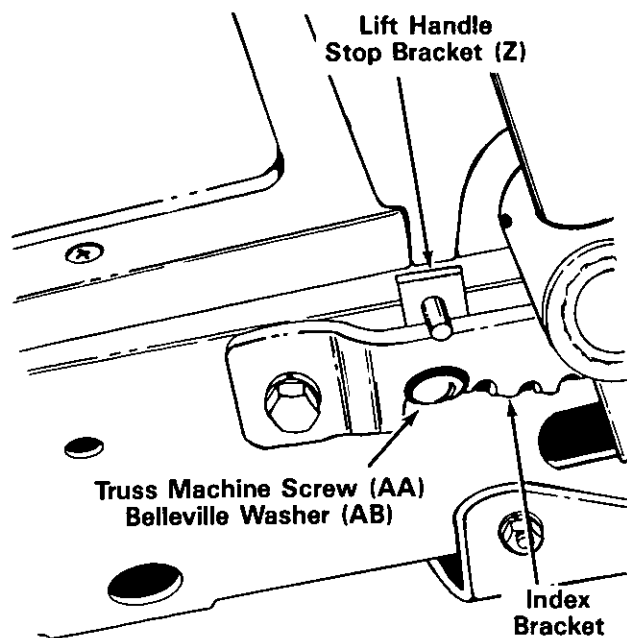

FIGURE 19
25. **Units with serial numbers 109,000 and below:** Attach the lift handle stop bracket (Z) to the index bracket on the tractor as shown in figure 19, using belleville washer (AB) (cupped side against the index bracket) and truss machine screw (AA).